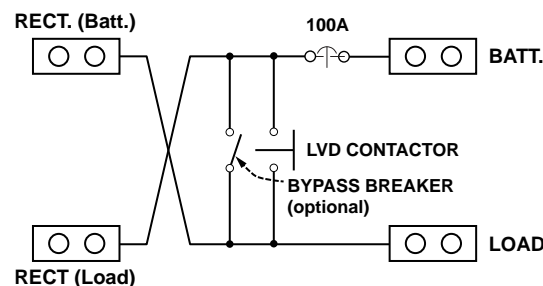

Figure 3. LVD Block Diagram
6.2 LVD Circuits. Figure 3 shows a simplified diagram of the LVD circuit. The LVD is connected to a rectifier bus, battery and distribution panel. The contactor and bypass switch can be connected either in series with the rectifier and load or the rectifier and battery. If the battery voltage drops to 42.5V for a 48V battery or 21.25V for a 24V battery, the contactor opens, removing the loads from the rectifier and battery or, alternatively, removing the battery from the rectifier and loads. The disconnect contactor is rated at 70 amperes. If the current into or out of the battery exceeds 100 amperes, the battery circuit breaker will trip. If the contactor opens due to low voltage, it will close again when the battery voltage exceeds 49.0 volts for a 48V battery or 24.5 volts for a 24V battery. Other circuitry is incorporated detects the low battery voltage, turns the red LED on or off and turns the Form C relay on or off.